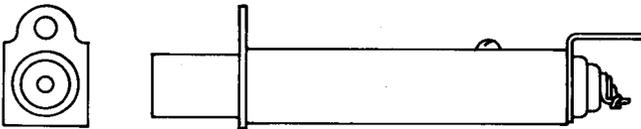

Fig. 12—468B Jack
2.12 **468B:** This single-mounted jack (Fig. 12) has a tubular metal frame and has coaxially arranged inner and outer contacts. This jack is provided with terminals at the rear for connecting wires instead of coaxial cable. This jack is used with the 337A and 337B and similar-type plugs. This jack is used in the L1 Carrier Telephone Systems. The testing voltage for this jack is 2000 volts ac. This jack replaces the 468A jack.